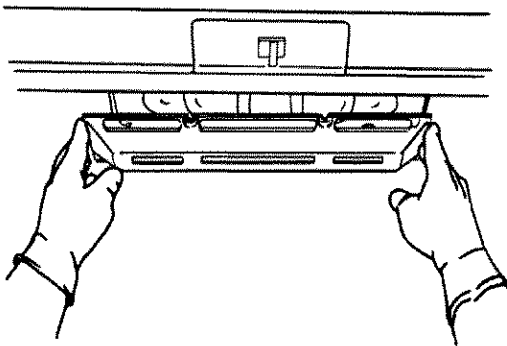

Figure 39
- Slide cover toward rear compartment wall to remove. See Figure 39.